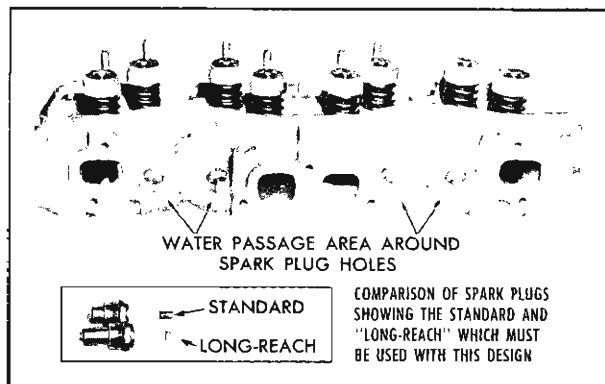

Fig. 131—Cylinder Head Spark Plug (Long Reach)
NOTE: Long reach spark plugs with copper gaskets shown in Figure 131 must be used with replacement cylinder heads.
16. Place new gaskets on plugs and install. Tighten to 20-25 ft. lbs. torque. See Figure 131.